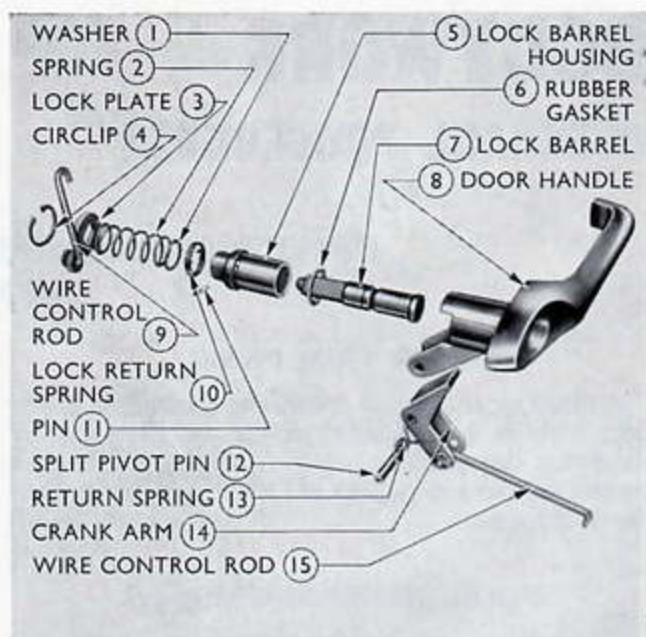

Fig. 4
3. Tap out the split pivot pin locating the plunger crank arm to the door handle and remove the crank arm (see Fig. 4). Ensure that the crank arm return spring does not fly out when the pivot pin is removed.
4. Remove the circlip locating the lock barrel housing in the door handle and withdraw the lock barrel, lock plate, spring and housing as an assembly (see Fig. 4).
5. Withdraw the steel spacer washers from the lock housing and, using a thin bladed screwdriver, prise the return spring out of the lock barrel and remove the spring (see Fig. 4).
6. Remove the rubber sealing gasket from its groove in the lock housing and drive out the brass pin locating the lock barrel in the housing (see Fig. 4).